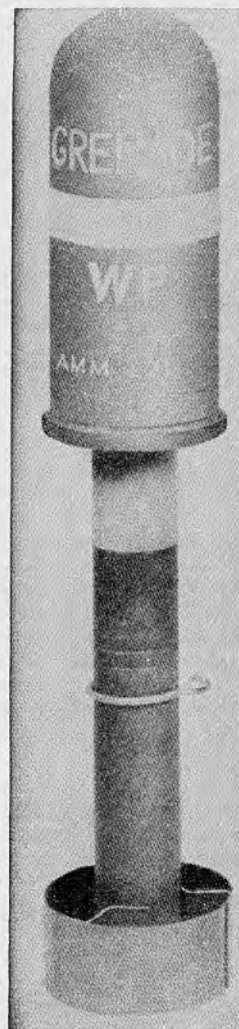

Figure 28.9. M19A1 white phosphorus rifle grenade.
d. Chemical and Pyrotechnic Rifle Grenades (See Figure 28.9).